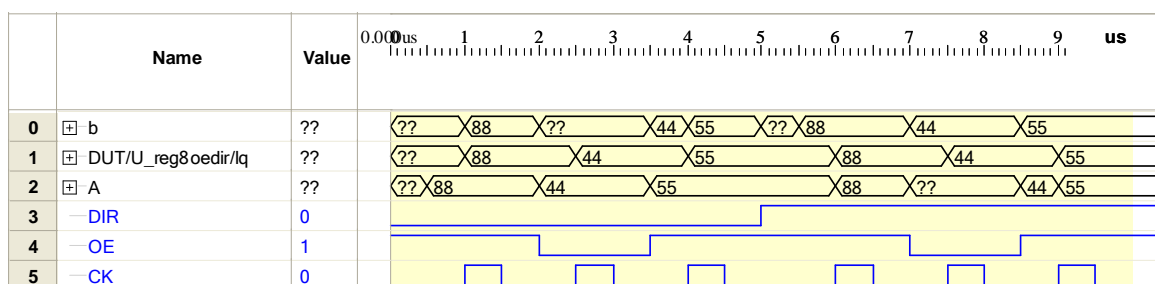

Figure 11: Simulation of the octal register with output enable and direction
*The simulation result is shown in Figure 11 given the test bench on Page 13. This is a good example to try changing what signals appear in the process statement sensitivity list.*